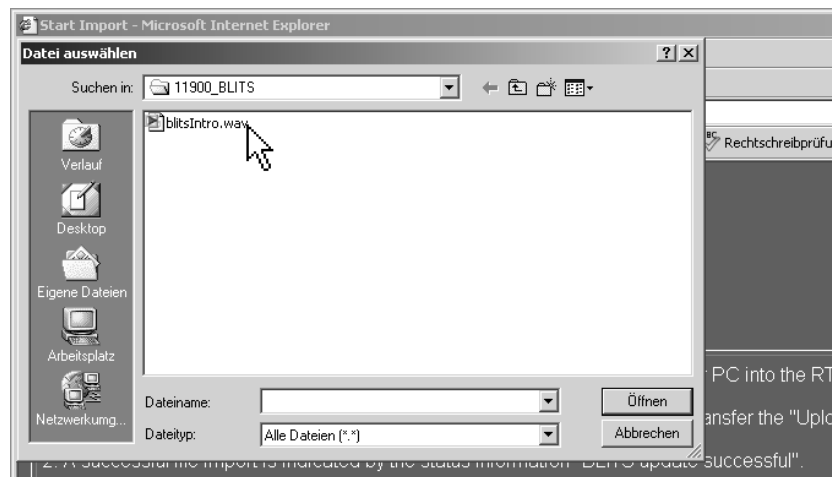

Fig. 8-27: The BLITS file selection dialog box (blitsIntro.wav)
4. Choose the folder (e. g.: C:\11900\_BLITS) with the ident intro wave file and click the file e. g. **blitsIntro.wav** (see Fig. 8-27).